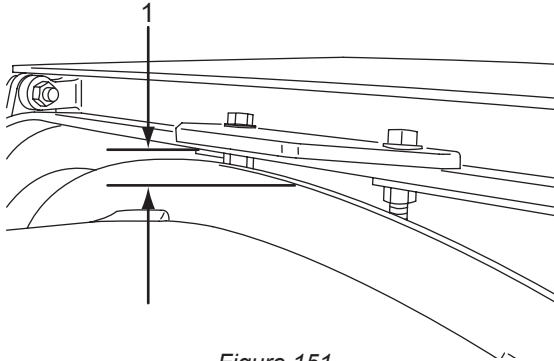

Figure 151
7. Check the debouncer-to-drum clearance (Figure 151, Item 1), the clearance should be 3/8 to 1/2 inch (10 to 13 mm) at the closest point.